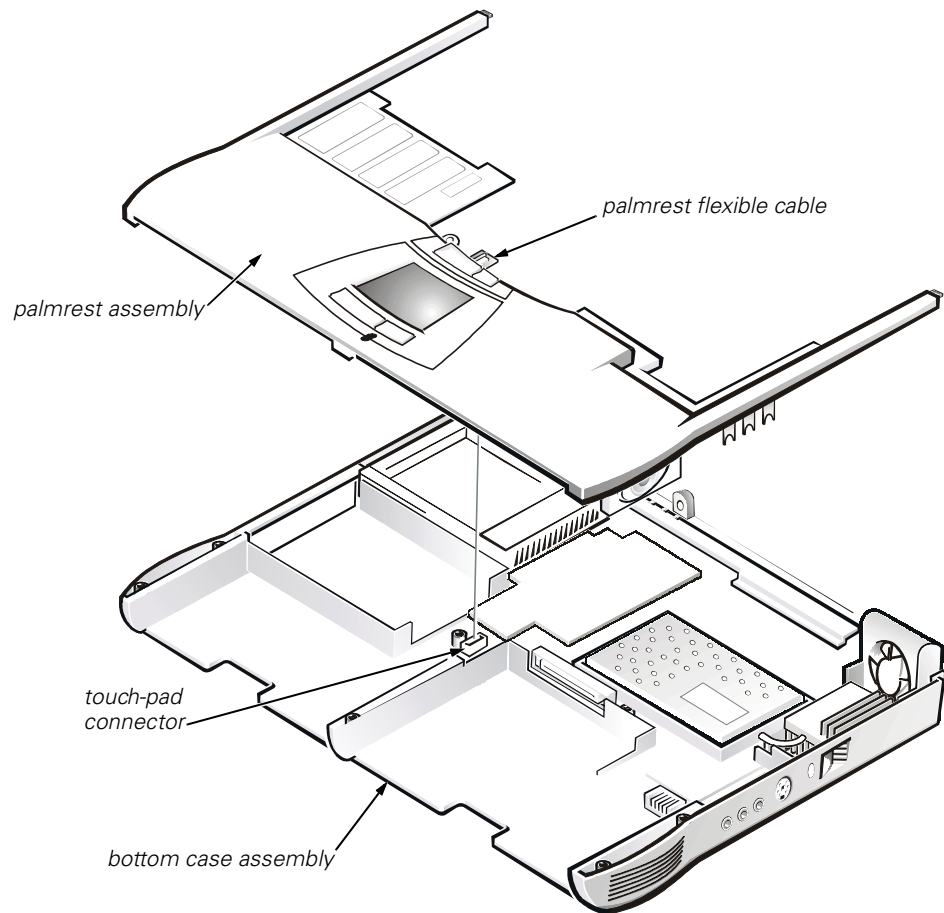

Figure 19. Palmrest Assembly Removal
8. Disconnect the palmrest flexible cable from the touch-pad connector on the system board (see Figure 19).
9. Carefully remove the palmrest assembly from the bottom case assembly (see Figure 19).
9. Remove the following two screws from the system board assembly (see Figure 19):